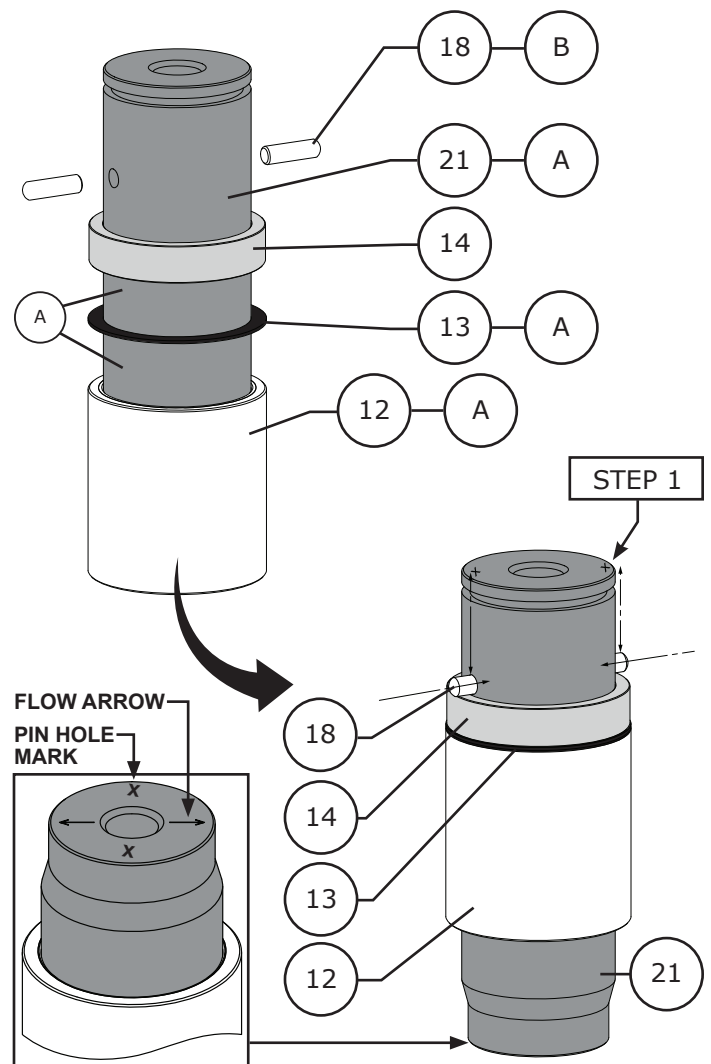
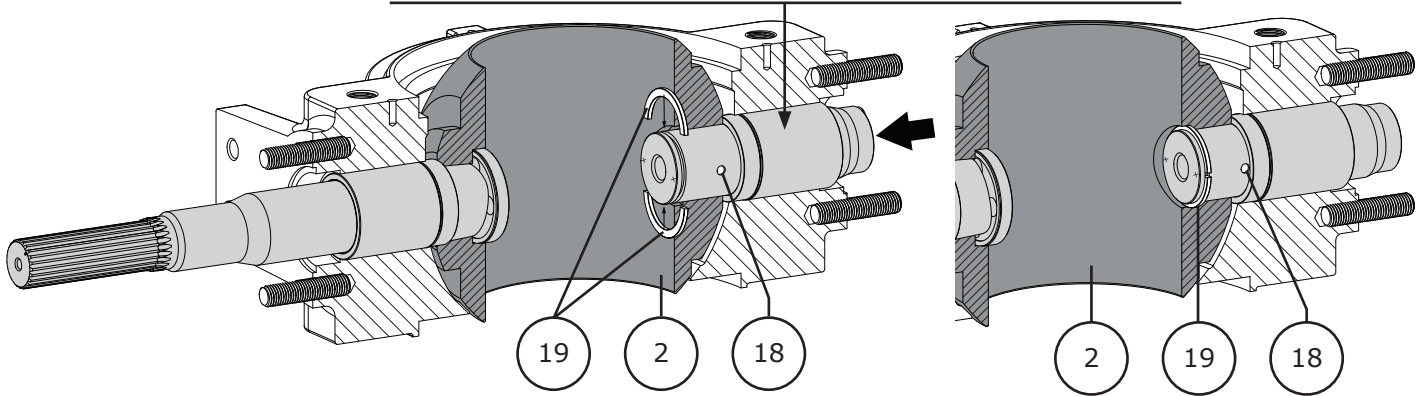

Figure 24 Outboard (Follower) Shaft Assembly
Figure 30 Outboard (Follower) Shaft Installation (Steps 14 - 15)
- 1 Using a felt marker, mark the position of the pin holes of the follower shaft (Key 21) on the bottom and top of the follower shaft for future reference. **NOTE:** The pin holes will be opposite from the flow arrows engraved on the flange side of the follower shaft. Refer to Figure 24.
- 2 Apply Permatex® Nickel Anti-Seize (Key A) to the seal parts portion of the drive shaft (Key 17) and follower shaft (Key 21). Refer to Figures 24 & 25.
- 4 Install the thrust spacer (Key 14), thrust washer (Key 13), and bushing (Key 12) on to the drive shaft (Key 17) and follower shaft (Key 21) as shown in Figures 24 & 25.
- 14** Install the outboard (follower) shaft assembly (Figure 24) into the valve body assembly. Push the shaft assembly into the valve far enough that the split ring (Key 19) groove on the follower shaft (Key 21) is visible on the inside of the valve ball (Key 2). Refer to Figure 30.
- 15** Install the split ring (Key 19) and push the follower shaft assembly back out of the valve until it stops in place. Refer to Figure 30.
OUTBOARD (FOLLOWER) SHAFT ASSEMBLY (SEE FIGURE 24)